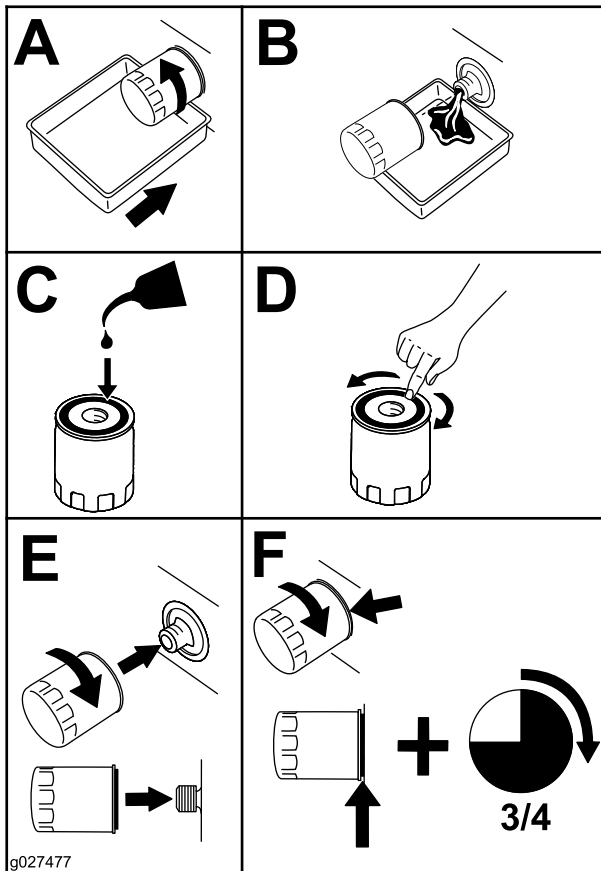

Figure 75
5. Change the engine-oil filter (Figure 75).